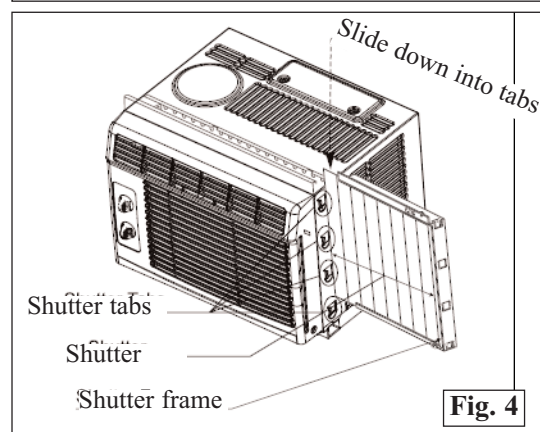

Fig. 4
- Extend the shutter from the shutter frame and slide it into the shutter tabs on the side channel of the air conditioner, as shown in Fig. 4.